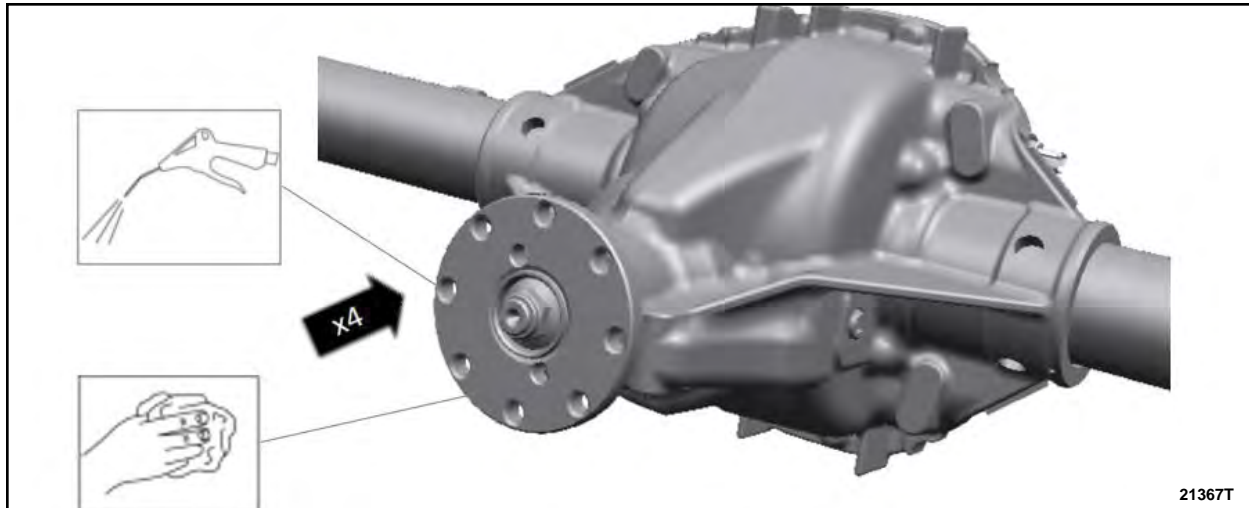

FIGURE 20
24. Using an air blow gun, remove any debris from threaded holes in axle flange. See Figure 20.